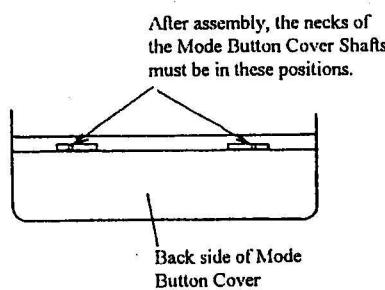

Fig.54
- 1) Apply the bond (Cemedine 551) to the Back Cover (D) and install the Mode Button Cover MGs (2DA22500) × 2.
- 2) Install the M. Indication Window (2DA22600) and from inside the Back Cover (D), apply the bond (Cemedine 551) to the peripheral side face of the M. Indication Window to secure it.
- 4) Install the Battery Cap Screw Socket (2DB11200) and secure it by applying the bond (Cemedine 551) to its periphery. After that, stick the D. Rubber (2) (2DC10400).
- 6) Install the Mode Button Cover Spring (2DA22400) and Mode Button Cover Shafts (2DA22300) × 2 in the Mode Button Cover (2DD10600) and install the resultant assembly in the Back Cover (D).
- Make certain that the necks of the Mode Button Cover Shafts are positioned as shown in Fig. 54.
- Secure the Back Cover Panel (2DD10500) by applying the bond (THREE BOND #1549) after completion of installing all the other parts of the Back Cover (D).